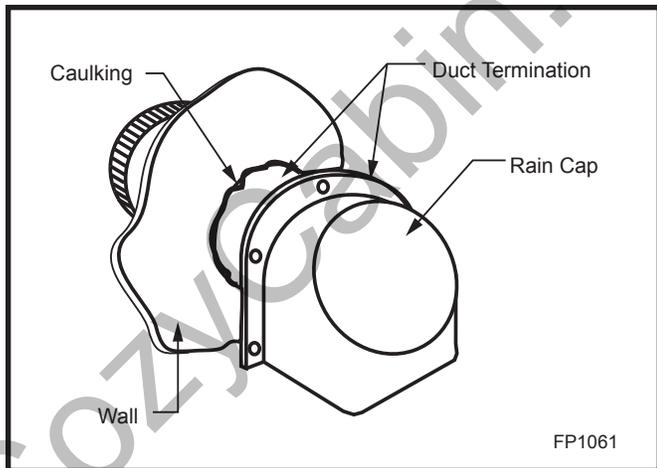

Fig. 15 Caulk and install duct termination/rain cap in place.
2. Attach the inlet collar with four (4) #10 screws to the side near the bottom of the fireplace. Slide the duct over the collar and attach the duct to the collar using the plastic tie straps or three (3) screws (screws not provided). Continue attaching the ducting together using three (3) screws at each joint until you have installed sufficient duct to arrive at your duct termination location.
3. At the termination end, install the duct termination. This should be installed from the outside of the home. Cut a hole in the desired location approximately 4½" in diameter, caulk around the hole, and slide the termination through the opening from outside the home. The termination/rain cap should be caulked around its perimeter to assure a tight seal. The rain cap opening should be positioned downward. (Fig. 15)